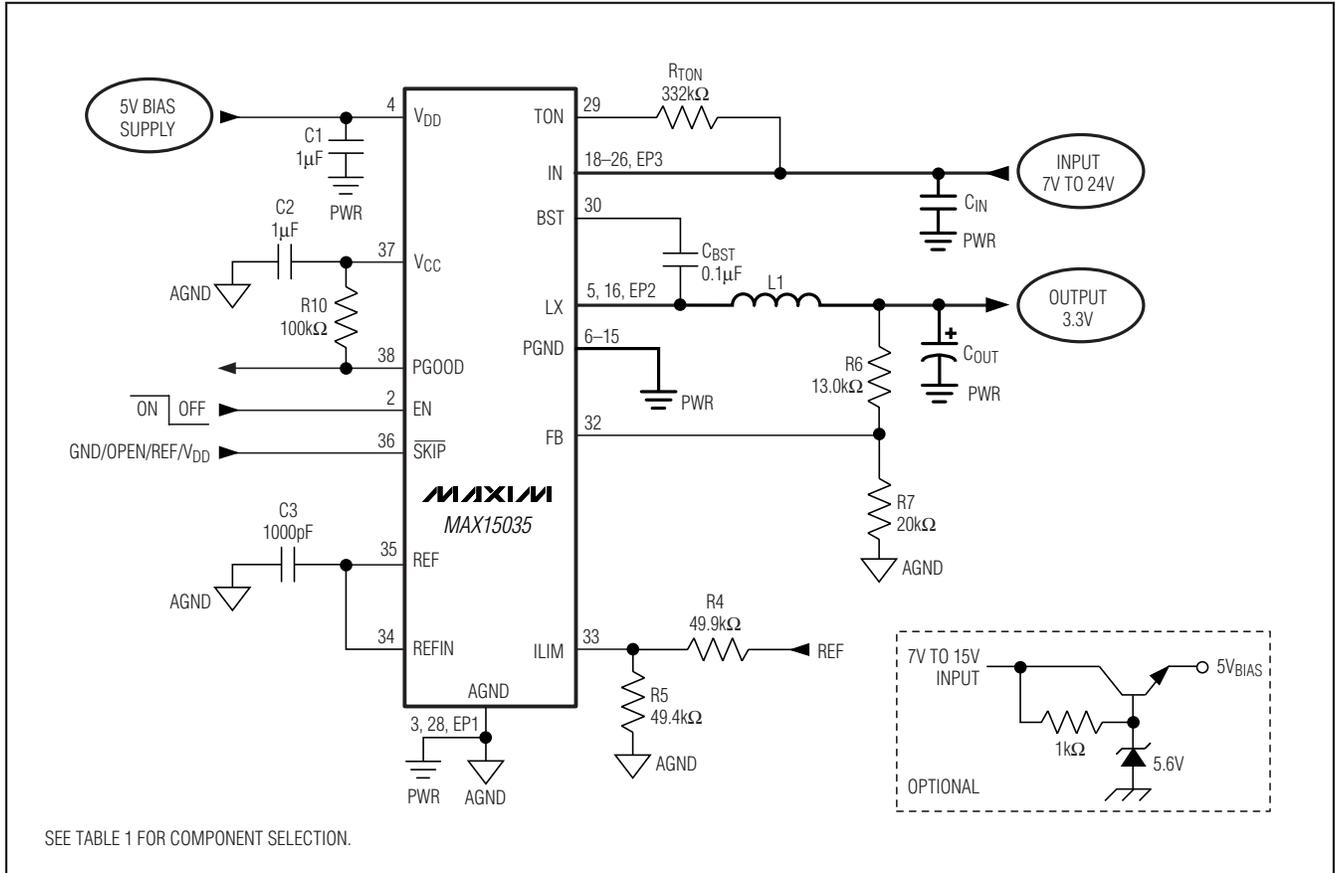

Figure 6. High Output-Voltage Application Using a Feedback Divider
The MAX15035 requires an external 5V bias supply in addition to the input. See Figure 6 for an optional 5V bias generation circuit.
Although REFIN is limited to a 0 to 2V range, the output-voltage range is unlimited since the MAX15035 utilizes a high-impedance feedback input (FB). By adding a resistive voltage-divider from the output to FB to analog ground (Figure 6), the MAX15035 supports output voltages above 2V. However, the controller also uses FB to determine the on-time, so the voltage-divider influences the actual switching frequency, as detailed in the *On-Time One-Shot* section.